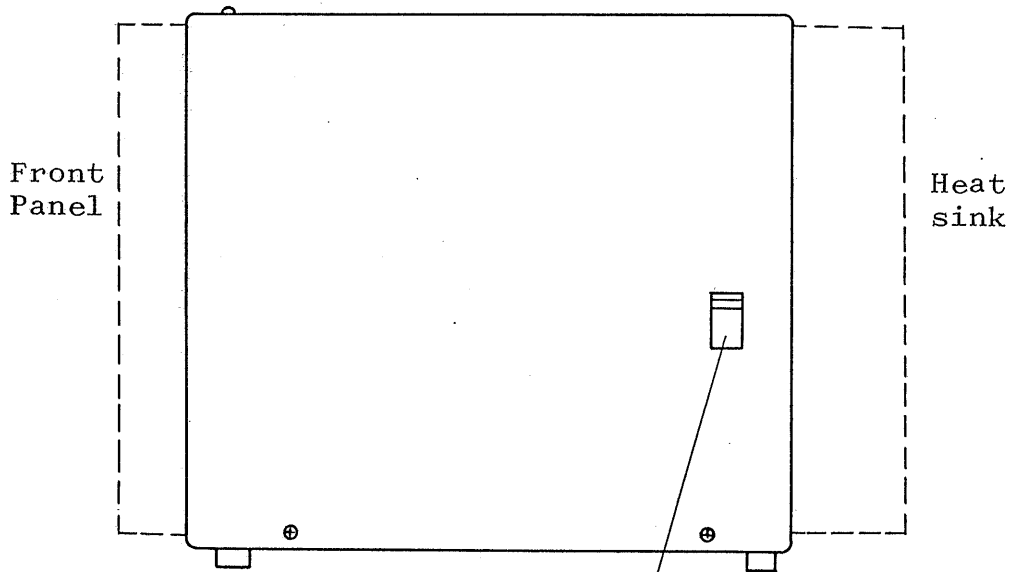

Fig. 2
1. According to the desired output voltage range, set the output voltage range selector to either the higher range (9 - 20 V) or the lower range (2 - 13 V) position. (See Fig. 2.)